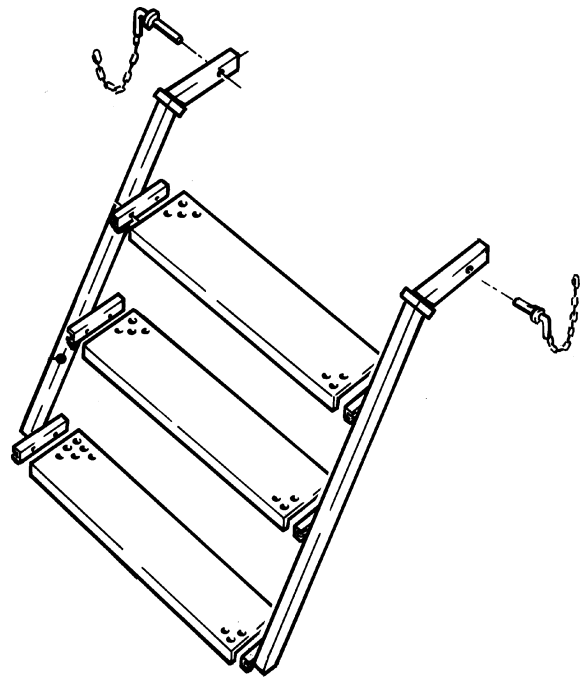

Fig.6-7 Locking pin step
10. Mount the steps and secure them with locking pins. See fig.6-7.